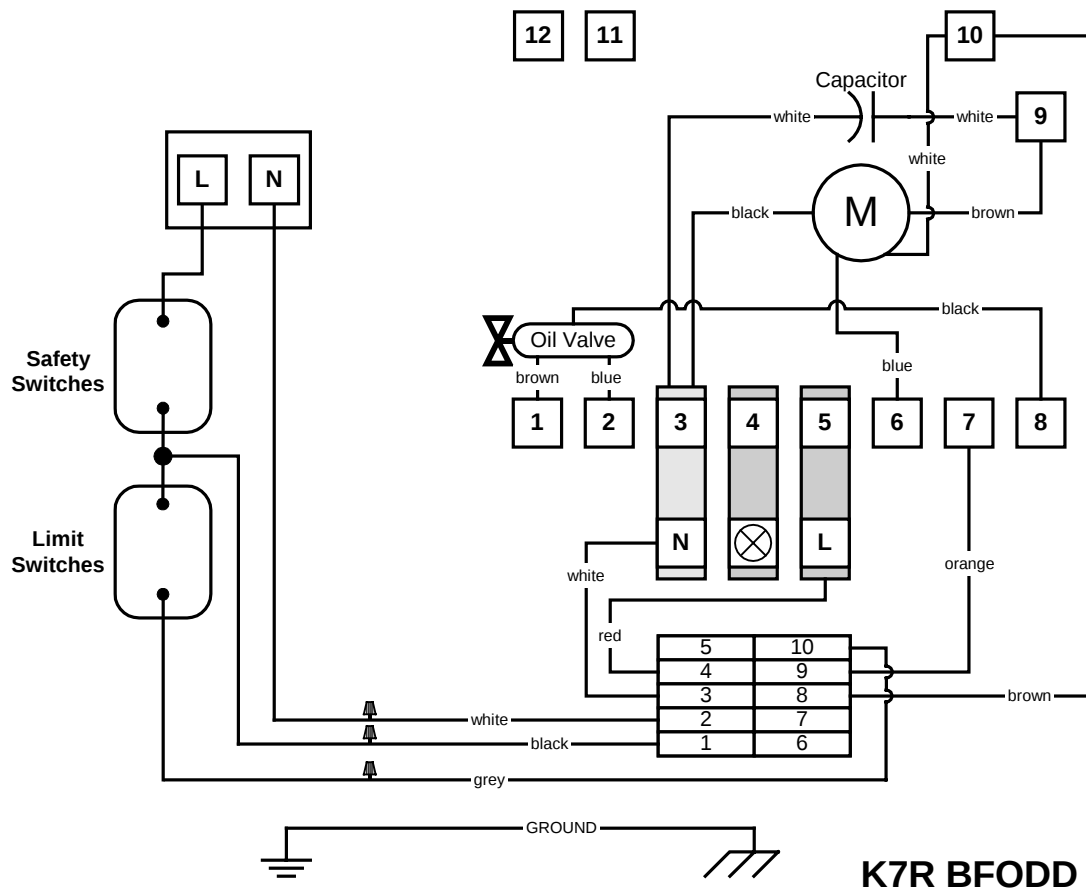

Figure 3
9. Refer to **Figure 3** and make the following wiring changes.